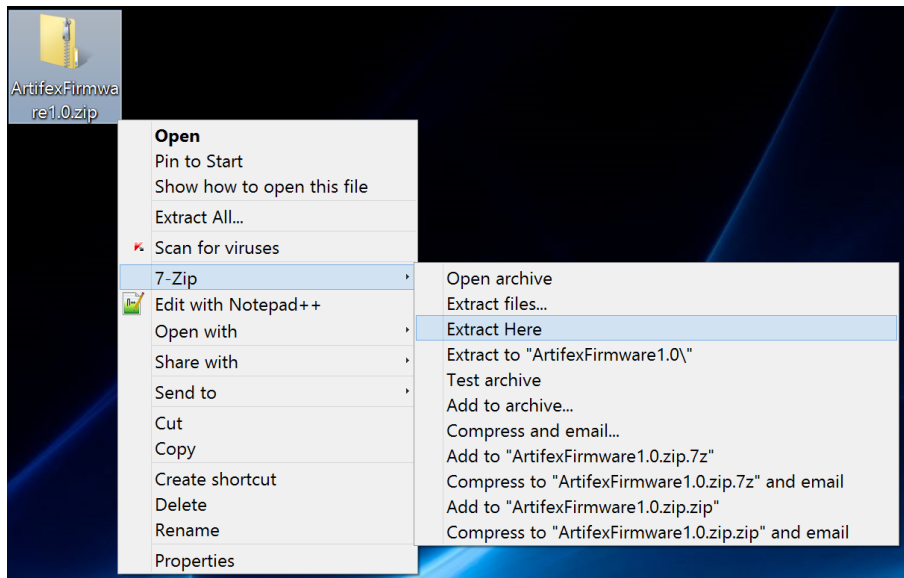

Figure 2.10: Unzip the Artifex 2 firmware zip file using 7-Zip
- Unzip the file using 7-Zip or other archive software. (Figure 2.10)